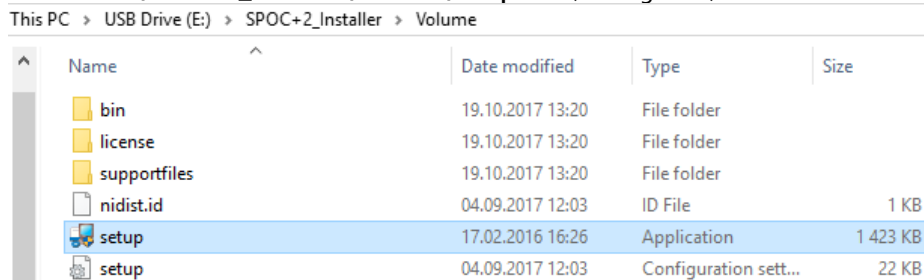

Figure 6 – SPOC™+2 - setup.exe
- **USB-Drive:\SPOC+2_Installer\Volume\setup.exe** (see Figure 6)